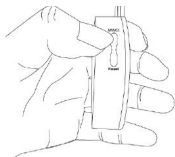

Fig. 2.3
- Press MM/Ct (**Fig. 2.3**) to convert between dimension in millimeter or weight in carat.
- Slowly close the Slider (**Fig. 2.5**), the reading will be shown directly on the display window. Press MM/Ct (**Fig. 2.3**) to convert between dimension in millimeter or weight in carat.